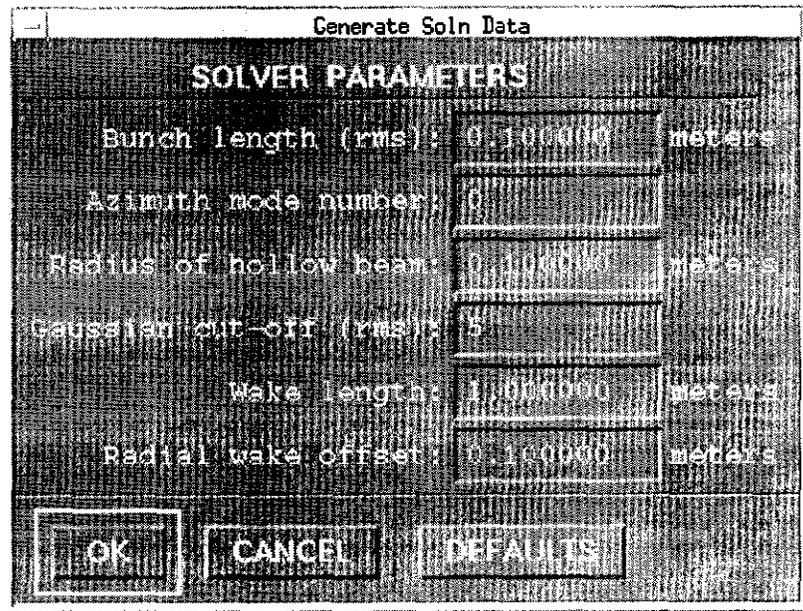

Figure 3. The Solver Parameters Dialog
**Run The Solver** This button is enabled when *Mesh* data is loaded. Actuating this button brings up a dialog containing 6 parameters, appearing in editable boxes, required for computing wakefields. Figure 3 shows this dialog. Default values are initially calculated from the information in the problem description file and appear in the boxes. You can accept these values or change any of them before running the Solver. **OK** initiates the Solver and accepts the parameter values currently displayed. **CANCEL** exits without doing or changing anything, and **DEFAULTS** reinstates the initial default values. As with MG, the Solver requires time to compute so a progress message appears containing an **ABORT** button.